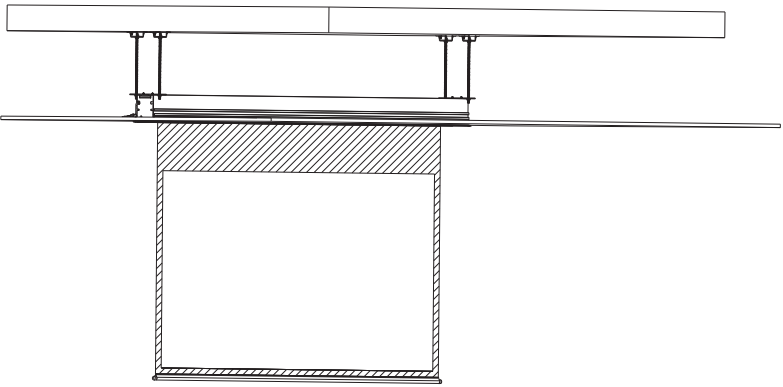

Figure25
11. Installation Completed (figure 25).